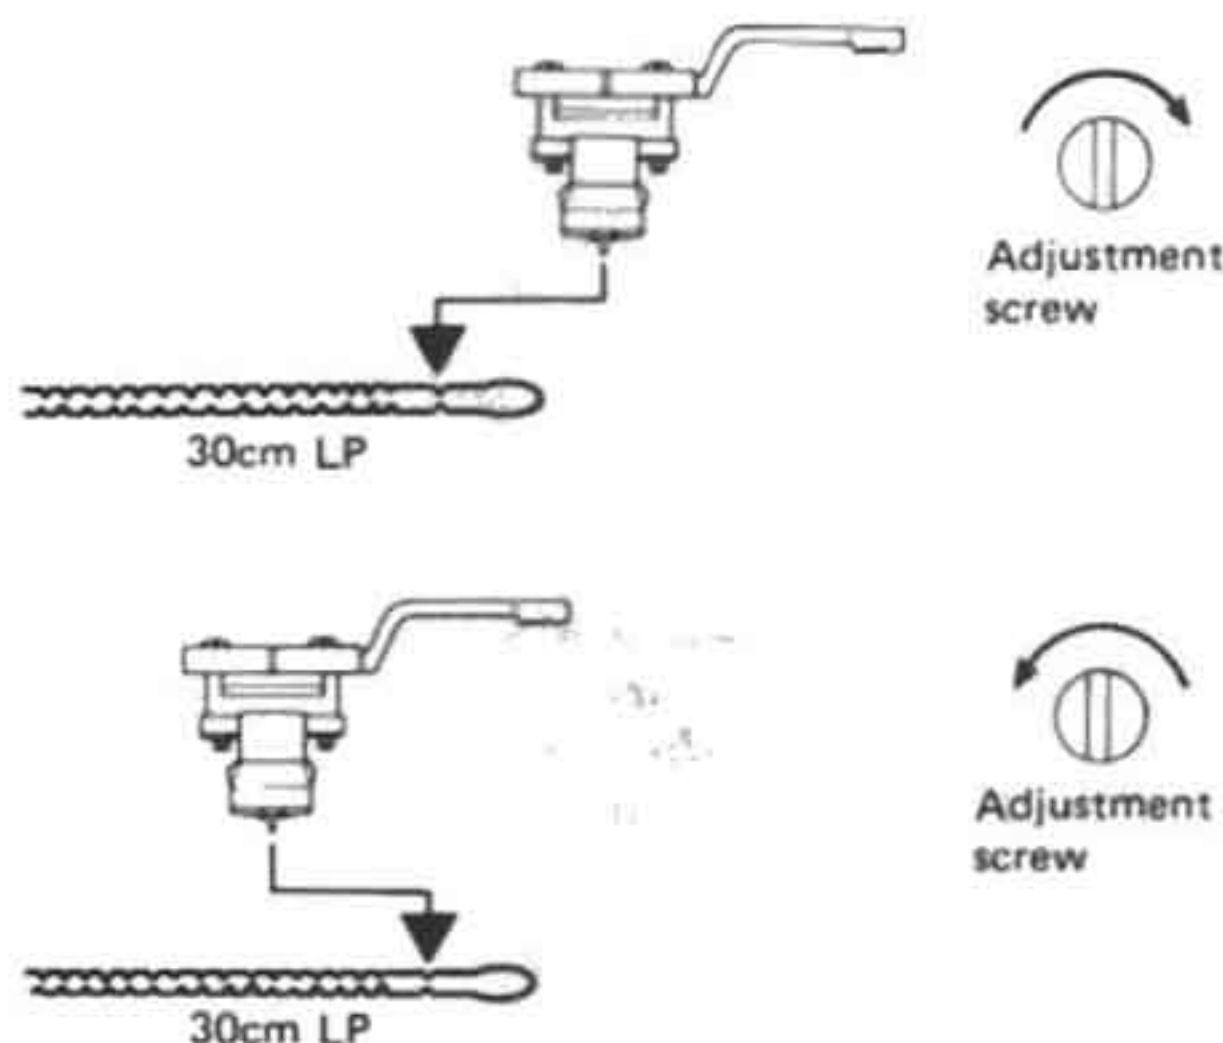

Fig. 20
4. Rotate the adjustment screw with the accessory screwdriver as follows and adjust (Fig. 20).